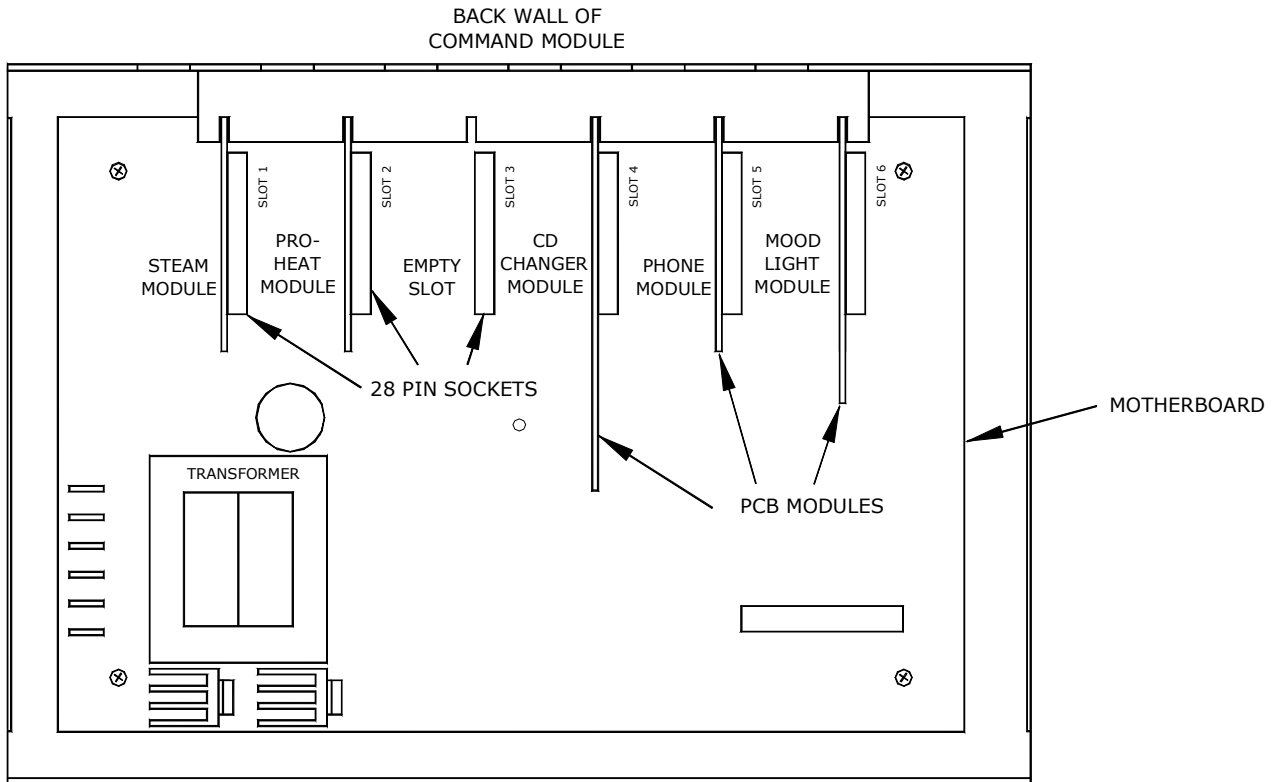

Figure 12 Command Module with top cover removed to install PCB Modules.
14. With no power connected to the Command Module, install the CD Changer PCB Module, Moodlight PCB Module and Phone PCB Module in the slots on the motherboard in the (options ordered will determine which boards you will be required to install). Each module can be installed in any of the slots along the back wall of the motherboard as long as the PCB Module will fit. **IT IS VERY IMPORTANT** that the pins of the PCB Modules are lined up properly in the sockets on the motherboard or the system may be damaged (see **Figure 12**). The Steam Control PCB Module and Proportional Heating PCB Module (if Pro-Heat option is ordered) will already be pre-installed in the Command Module.